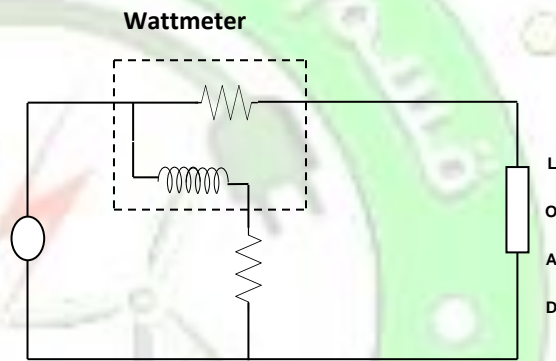

Fig. 3-2
- 6- Wire the circuit shown in Fig. 3-2